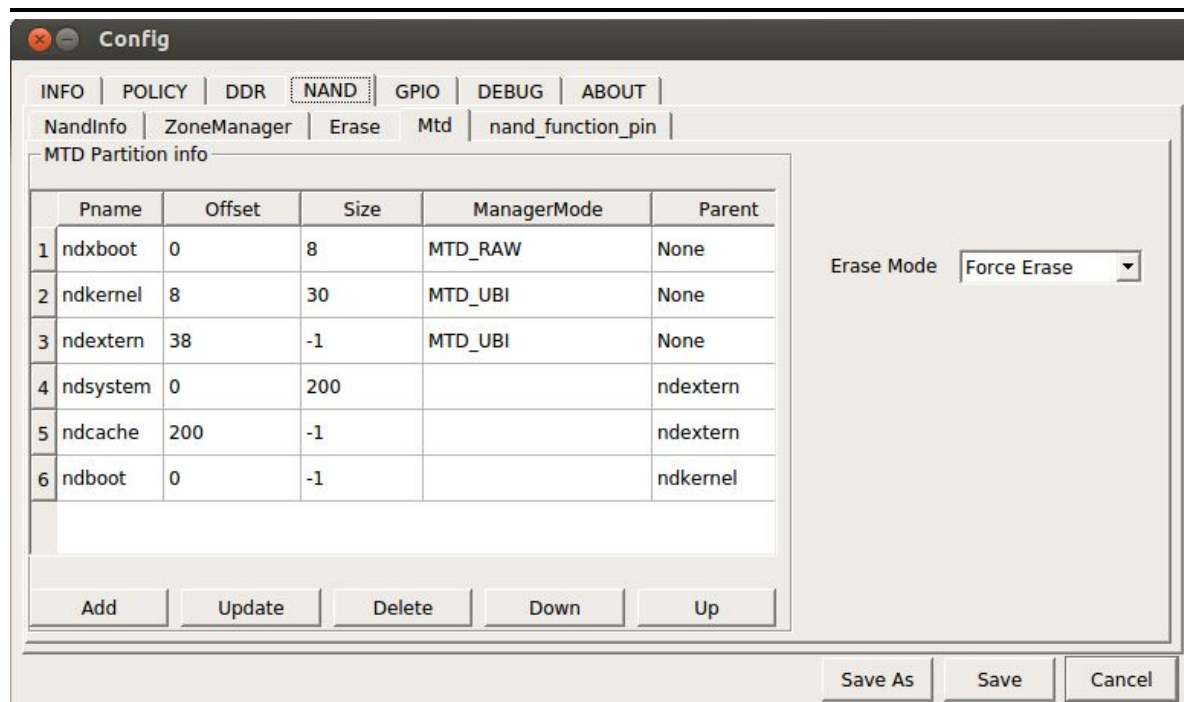

Figure 5-4 Kernel and file systems coexist in the same UBI volume of MT
4. Kernel and file systems coexist in different UBI volumes of MTD, as shown in Figure 5-4